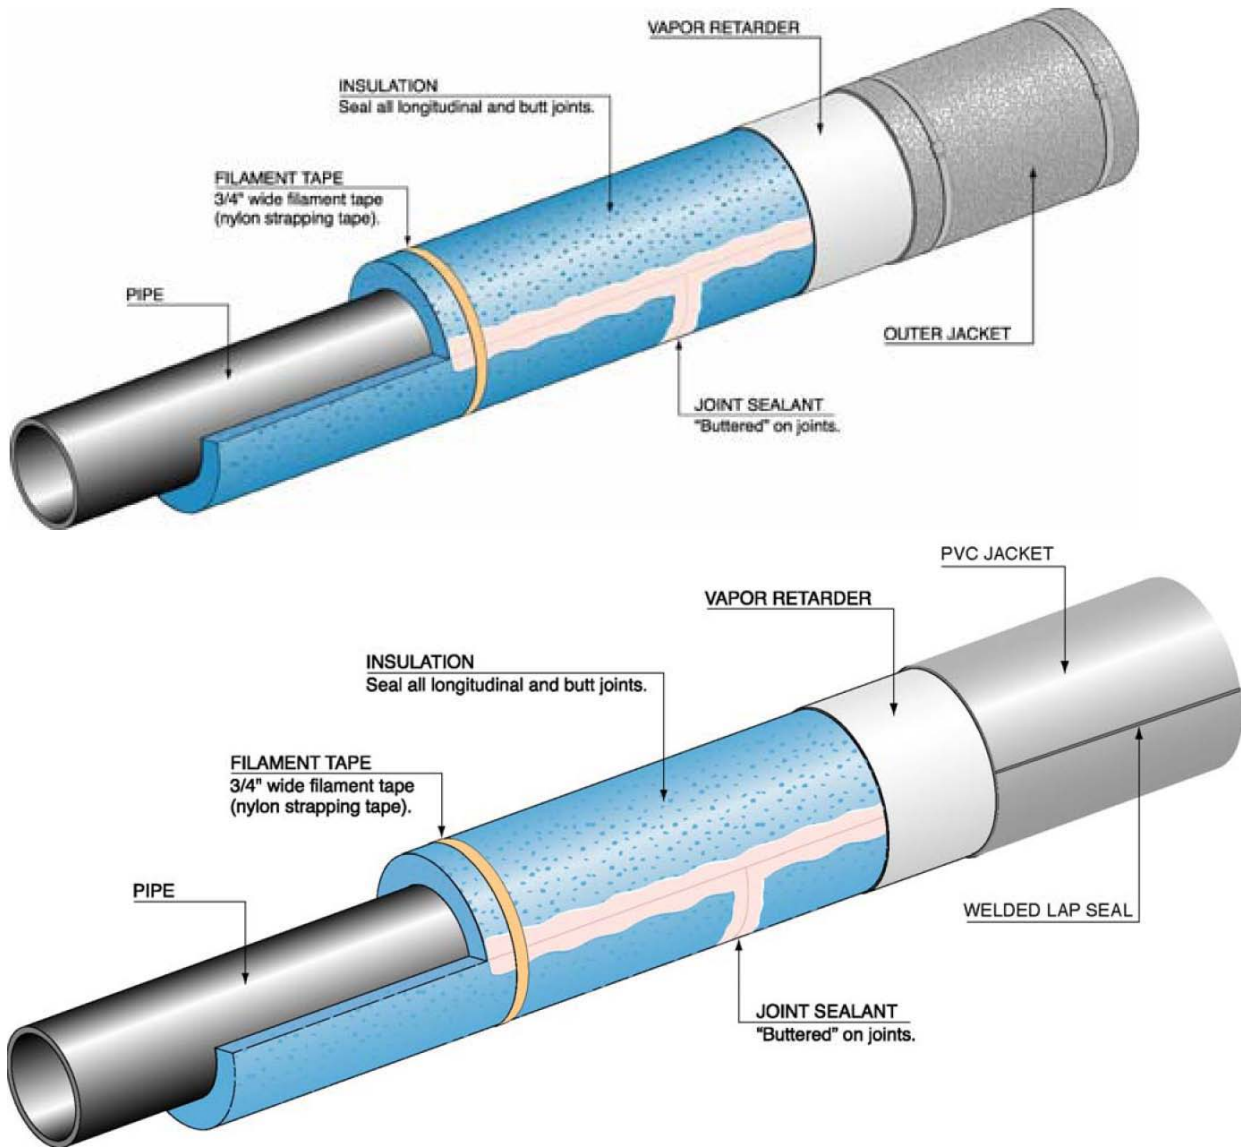

Figure 2
- 4.1.1 Stagger insulation half sections so that butt joints are staggered between top and bottom half sections by 6 to 18 inches on insulation layers that do not have a vapor retarder factory applied to them. On a single layer system, orient longitudinal joints between half sections in the 3 and 9 o'clock position on the pipe. Refer to Figure 2 in Appendix B.